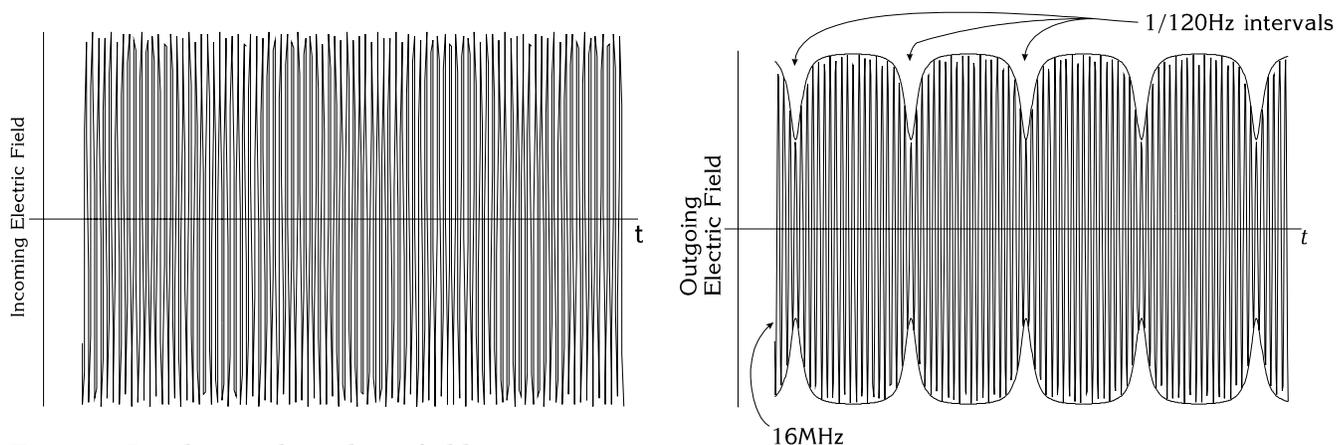

Figure 4: Incident and resultant fields.
8. Under condition 2. above, compute the S/N ratio expected for O^{17} NMR resonance in naturally abundant water; compare to Ref. 4, Fig. 4.